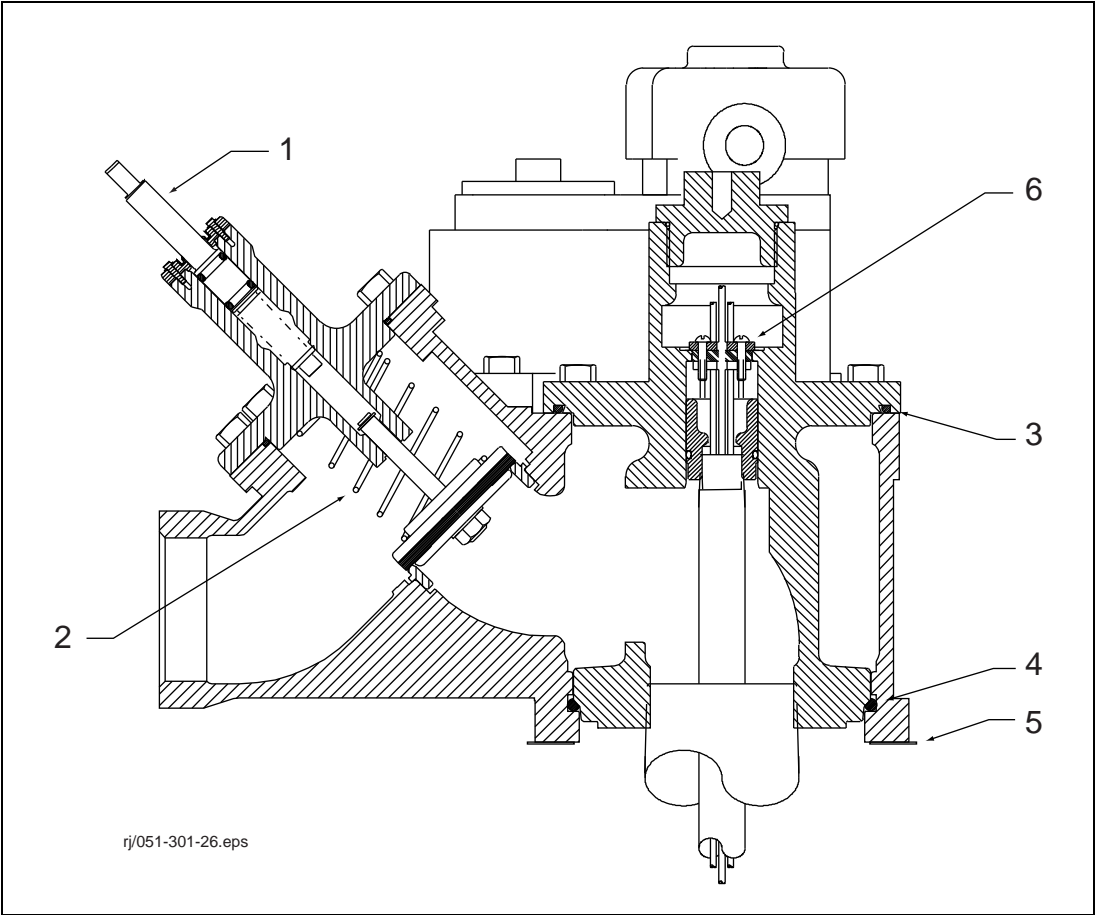

Figure 24. Check Valve And Electrical Bushing Assembly
1. Replace the lower o-ring (see Figure 24, Item #4) in the manifold and the one in the lower face of the Extracta head (see Figure 24, Item #3).